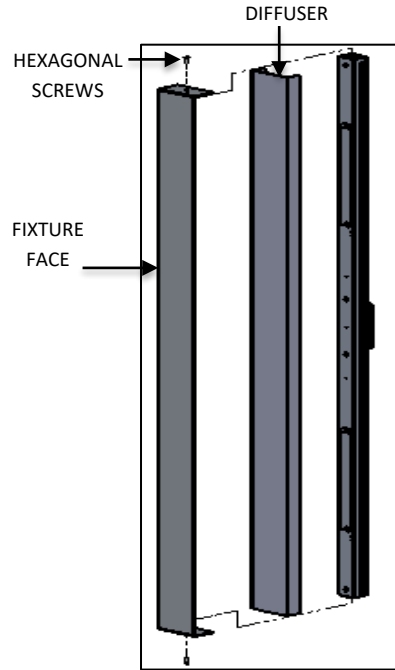

FIG. 4- FIXTURE FACE DIS-ASSEMBLY
2. Remove FIXTURE FACE from fixture by removing two HEX SCREWS at the ends as shown in FIG 4.